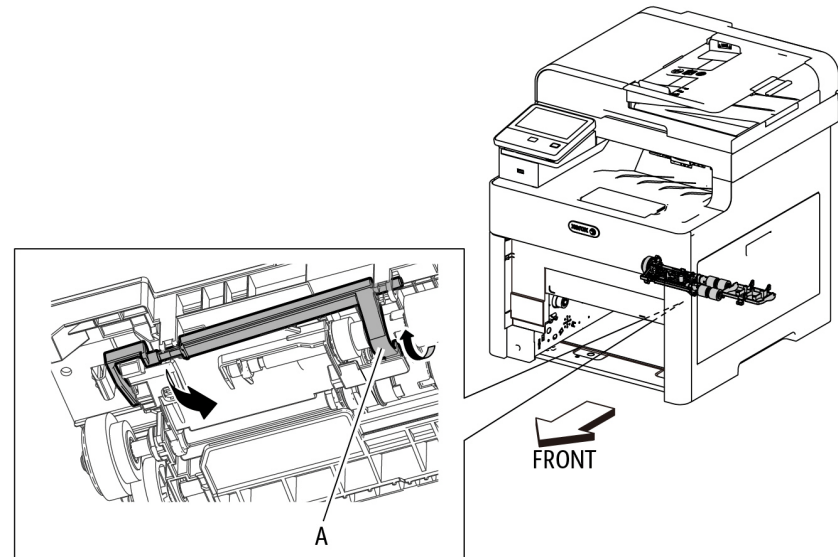

Figure 1 Remove the No Paper Actuator
3. Refer to Figure 1 to release tab A of the No Paper Actuator in the direction of the arrow and fully rotate the actuator.
When replacing the No Paper Actuator, rotate the actuator tab (labeled A in Figure 1) so it snaps into its home position as shown in the figure.